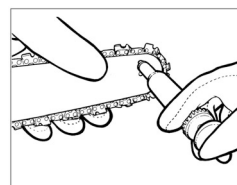

Fig. 14
3. Using disposable Lube gun, insert needle nose into the lubrication hole and inject grease until it appears at the outside edge of the sprocket tip (Fig. 14).